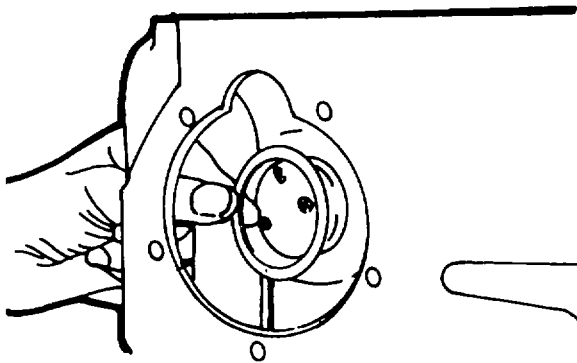

Figure 5-34. Positioning Thrust Washer
38. Check the crankshaft gear wheel and install the key if one has not been installed. Heat the crankshaft gear wheel to 212°F (100°C) and mount it bevel side first on the crankshaft 39. Place the thrust washer on the journal at the front end of the camshaft (figure 5-34).